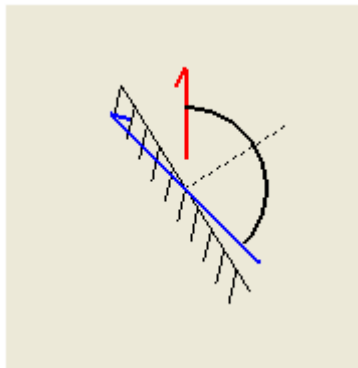

Figure 24-8. The wave event at 0:00 hours on 1 January 1990.
- Click on the first row of the Primary Waves spreadsheet. The wave picture will look like Figure 24-8.